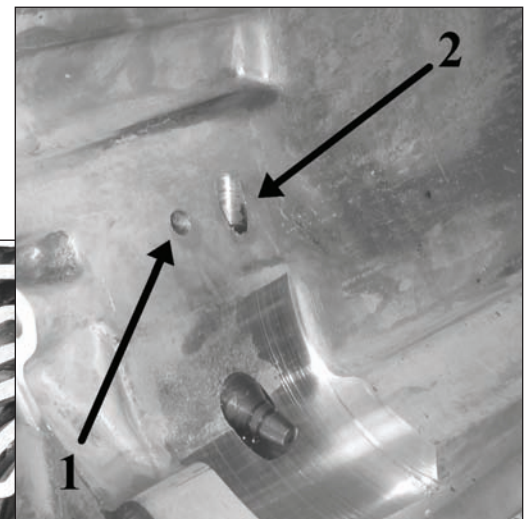

Figure 3
1. When air checking during overhaul (and pump removed), check for leaks of 3rd clutch oil at the OE 3rd accumulator check ball capsule (No. 2 in Figure 3).
2. No. 1 in Figure 3 is orifice to spray lube oil onto 2-4 band. Some leakage here is normal.